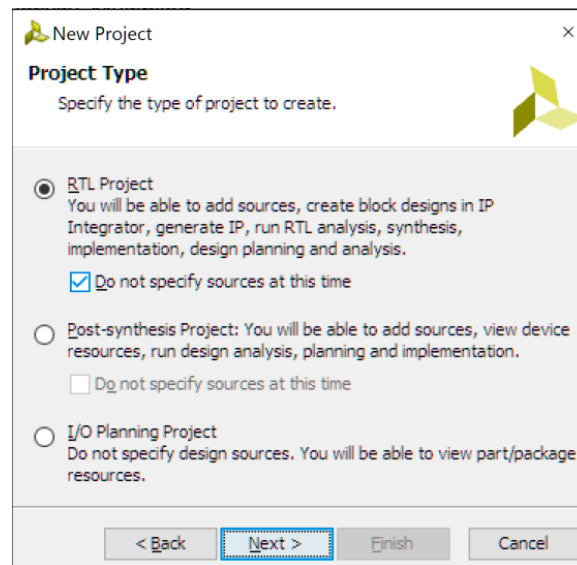

Figure 13 Project Type
15. In the window shown in Figure 13 we specify the type of project we want to create. In our case it's an RTL project. RTL stand for “Register Transfer Level” and the hardware is described using VHDL files. If you don't have any existing source code then tick also the box called “Do not specify sources at this time”.